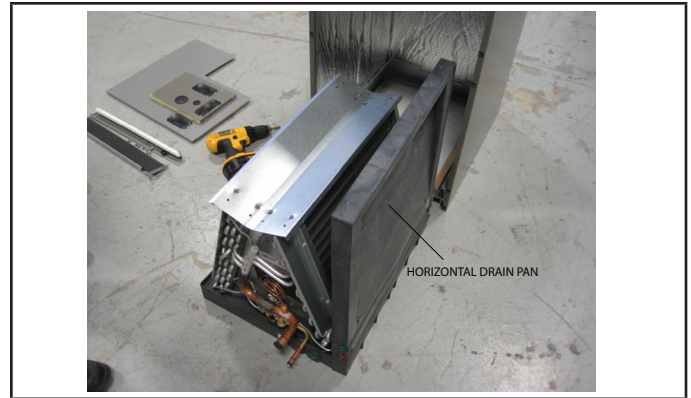

FIGURE 5.
- 4 - Carefully slide the coil and the horizontal drain pan assembly from the air handler cabinet (FIGURE 5). Discard the horizontal drain pan which is not used in this application.